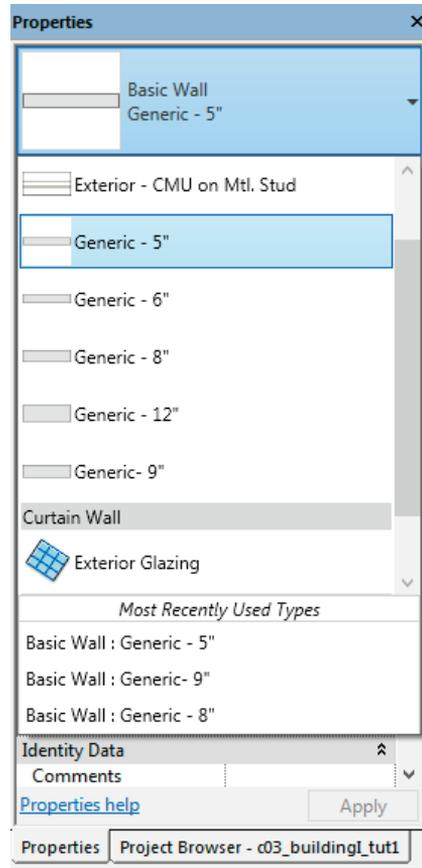

*Figure 3-63 The completed exterior profile of Office Building*
- Sketch the interior walls based on the given parameters, refer to Figures 3-63 through 3-69.
- To draw the third wall segment, move the cursor upwards and enter **13'** for Imperial or enter **3900 mm** for Metric as the value of the length and press ENTER. The other exterior wall segments are created as shown in Figure 3-63.